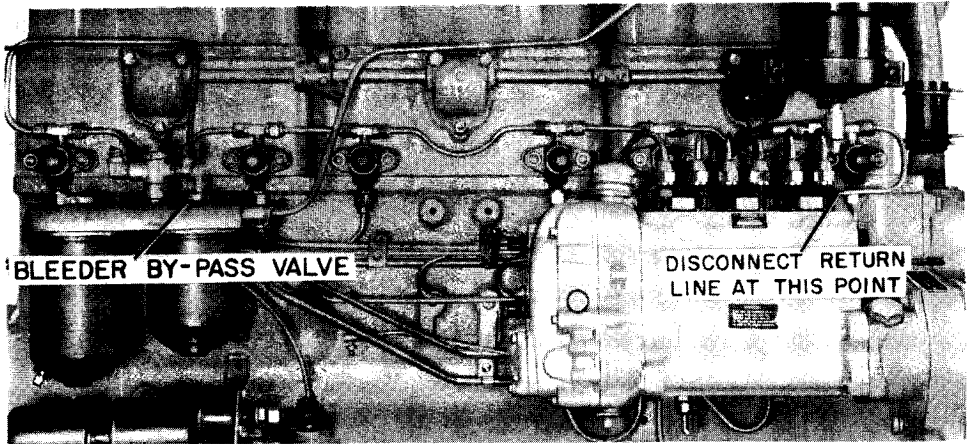

Figure 60
3. Carefully disconnect the fuel return line at the point indicated in Figure 60. Make sure no dirt enters the line. NOTE: The fitting must be removed from the pump in order to obtain an accurate check. Use a 9/16 inch box end wrench to remove and tighten the fitting.
4. Open the bleeder by-pass valve, Figure 60. If a small continuous flow of fuel does not appear at the opening, the final filter is plugged and must be replaced. Refer to Page 84.